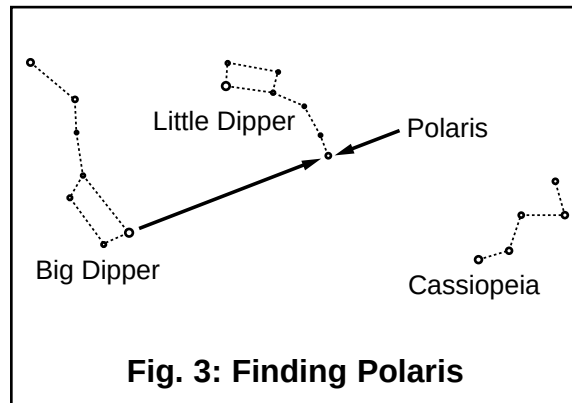

Fig. 3: Finding Polaris
- 1) Release the Azimuth lock (30) of the Azimuth base (33), so that the entire telescope-with-mounting may be rotated in a horizontal direction. *Rotate the telescope until the polar axis (10) points due North.* Use a compass or locate Polaris, the North Star (see Fig. 3), as an accurate reference for due North.
- 3) Determine the latitude of your observing location by checking a road map or atlas. Release the latitude lock (9) and tilt the telescope mount with the latitude adjustment knob (11) so that the pointer indicates the correct latitude of your viewing location on the latitude scale (29). Re-tighten the latitude lock (9).
- 4) If steps (1) - (3) above were performed with reasonable accuracy, your telescope is now sufficiently well-aligned to the North Celestial Pole for visual observations.